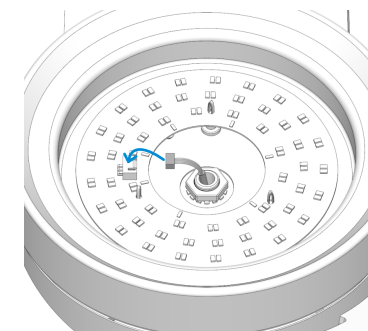

Fig. 3.2
3.3 Insert the wire plug into the light kit terminal block, as shown in Fig.3.2.